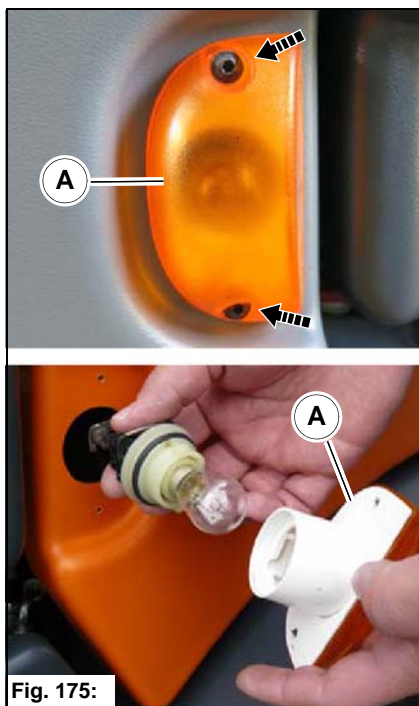

Fig. 175:
1. Use a size 15 Torx key to loosen the bolts of the turn indicator **Fig. 175-A**.